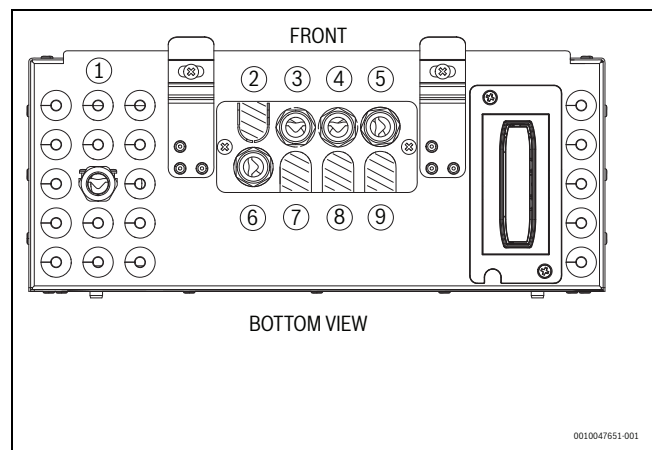

Fig. 26 Cable feeds to control box
- ▶ The appliance is provided with both power cables. These emerge from the central area of the bottom of the electrical control box (fig 26).
- ▶ Cables enter the left area of the bottom of the electrical control box via the bungs (fig 26)
- Cables for accessories should be fed through the bottom left area of the control box fig 26 and connected to the XCU-THH control unit as described in 7.6.6